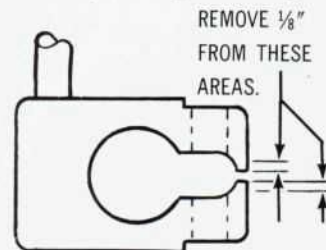

Figure 2—Revised Battery Post Clamp
2. Use a hacksaw to remove approximately $\frac{1}{8}$ " from areas shown in Figure 2.